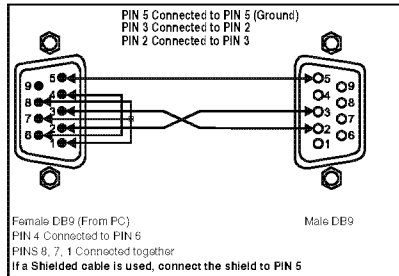

Figure 3: Connecting a PC without using a Null-modem Adapter
- Connect the RS-232 DB9 port on your PC to the RS-232 DB9 rear panel port on the **VS-808DS**, as Figure 3 illustrates